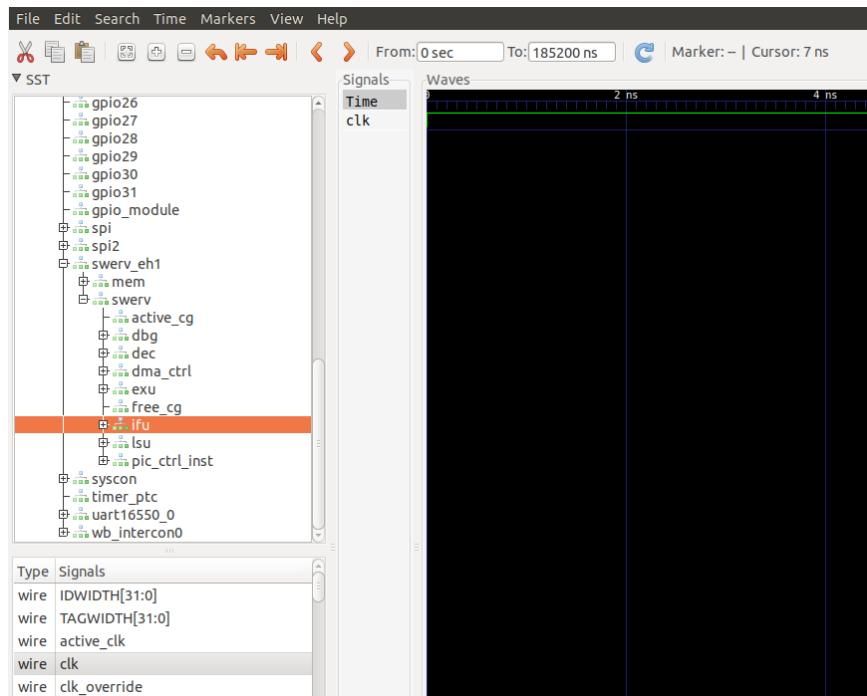

Figure 84. Add signal *clk* to the graph
8. Now you will add clock, instruction, and register signals. On the top left pane of *GTKWave*, expand the hierarchy of the SoC so that you can add signals to the graph. Expand the hierarchy into **TOP** → **rvfpgasim** → **swervolf** → **swerv_eh1** → **swerv**, and click on module **ifu** (it will highlight as shown in the Figure 84), select signal `clk` (which is